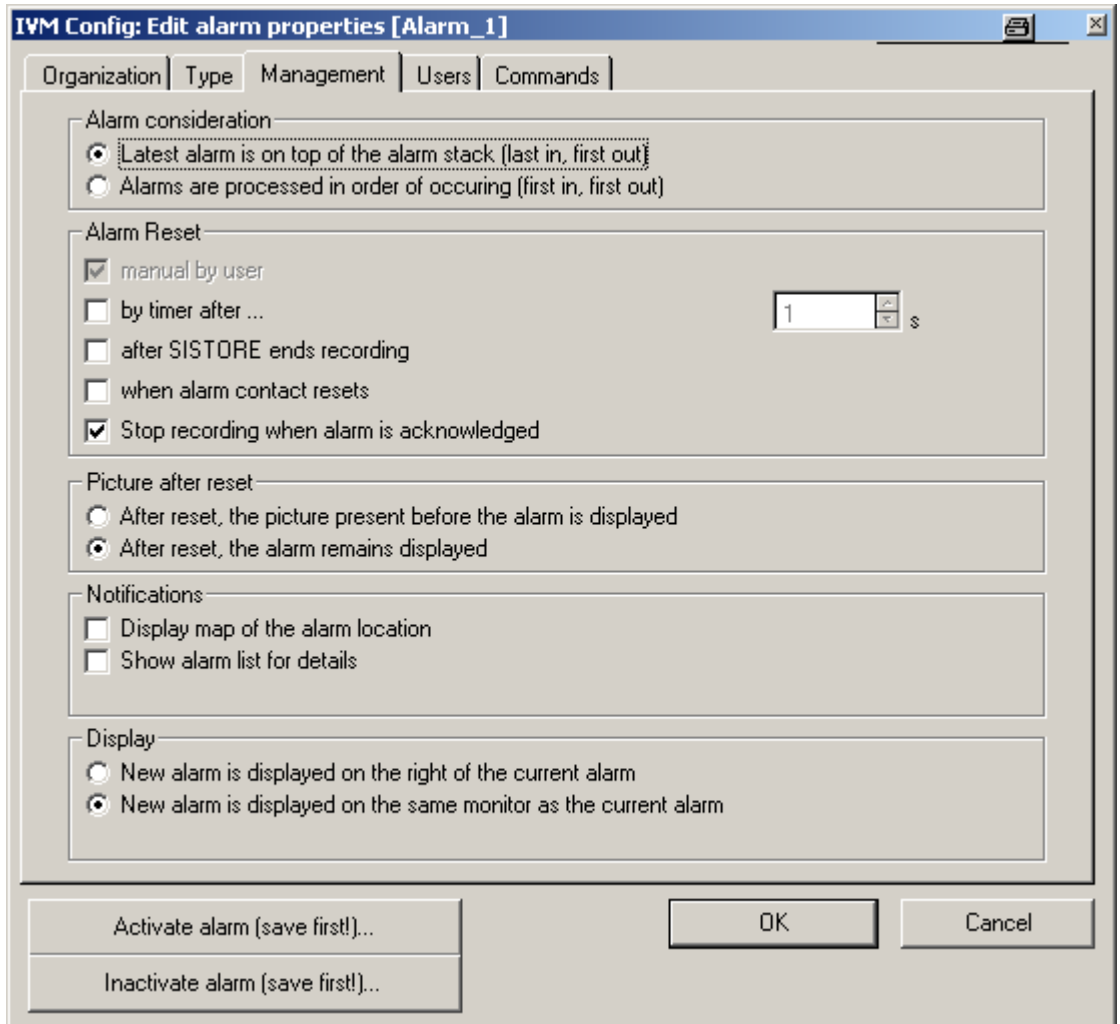

Fig. 104 Edit alarm properties - Management
1. Select the **Management** tab (see Fig. 104).